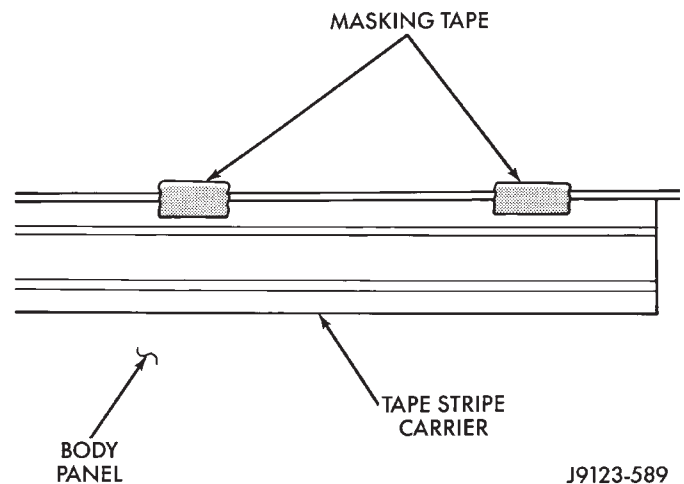

Fig. 66 Tape Stripe/Decals and Carrier Retained On Body Panel
(2) Position tape stripe/decals and carrier on panel and mark the required length with a wax pencil.
(3) Cut the stripe/decals and carrier at the required length with scissors.
(4) Position stripe/decals and carrier on panel and hold it in-place with pieces masking tape (Fig. 66).